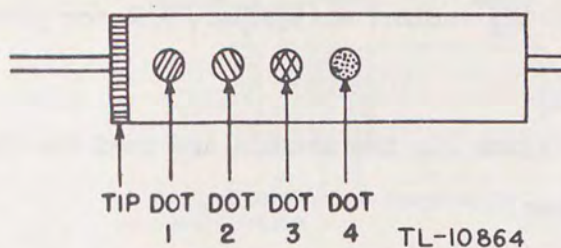

Figure 13. Tubular ceramic capacitors, RMA color code.
e. Tubular Ceramic-dielectric Capacitors. Tubular ceramic-dielectric capacitors are sometimes marked according to the RMA color code shown in figure 13. The negative temperature coefficient is indicated by the color of the band or tips at one end of the unit; the capacitance in micromicrofarads is shown by the first three dots; the capacitance tolerance, either in percent or tenths of a micromicrofarad, depending upon the size of the unit, is indicated by the fourth and last dot. For example, a 30-micromicrofarad, plus or minus 5 percent capacitor with a negative temperature coefficient of 80 parts per million per degree centigrade would be marked as follows: tip, red (-80); first dot, orange (3); second dot, black (0); third dot, black (1); fourth dot, green (plus or minus 5 percent). The abbreviation neg. (negative) in figure 13 indicates that the capacitance varies inversely with temperature. The temperature coefficient is expressed in micromicrofarads per micromicrofarad per degree centigrade. Some capacitors are marked with a numeral instead of a color code; for example, N-030 represents 0.00003 neg. Tolerances for capacitors of 10 micromicrofarads or less are expressed in tenths of a micromicrofarad instead of percentages.